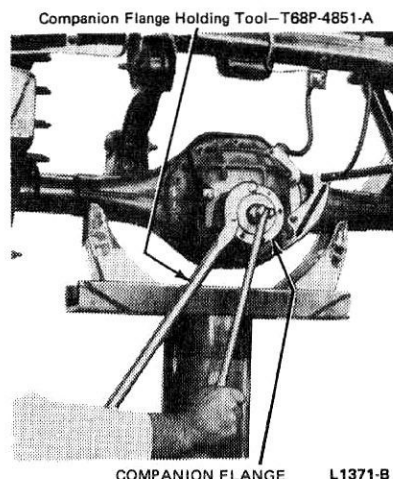

FIG. 15 Removing Pinion Shaft Nut
4. Attach the universal joint flange holding Tool T68P-4851-A to the universal joint flange and remove the retaining nut from the drive pinion (Fig. 15).